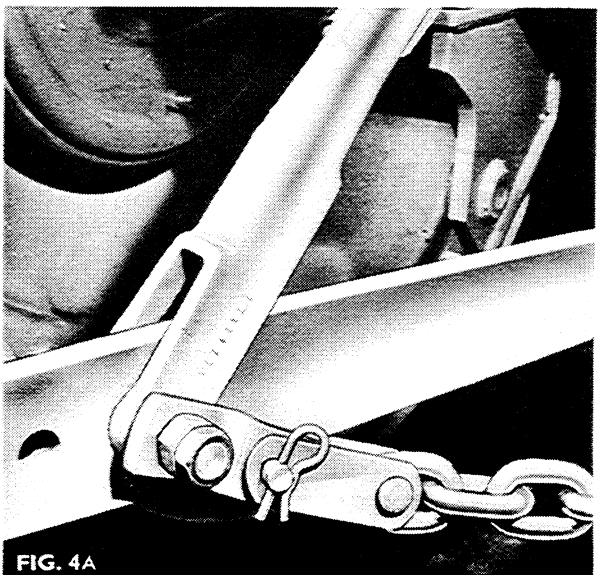

FIG. 4A
**NOTE — FOR CATEGORY 1 IMPLEMENTS, THE CHECK CHAIN LENGTH MUST BE SET AS SHOWN IN FIG. 4A AND FOR CATEGORY 2 IMPLEMENTS, AS SHOWN IN FIG. 4B.**